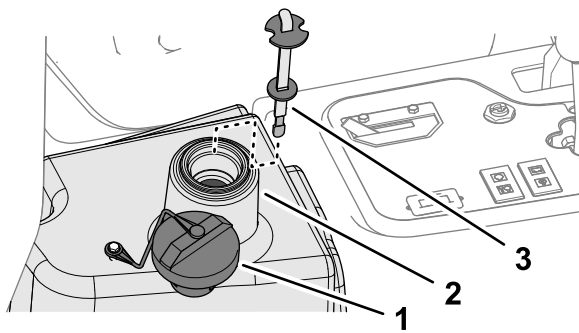

Figure 91
2. Clean the area around the filler neck and cap of the hydraulic-fluid tank (Figure 91) and remove the cap.